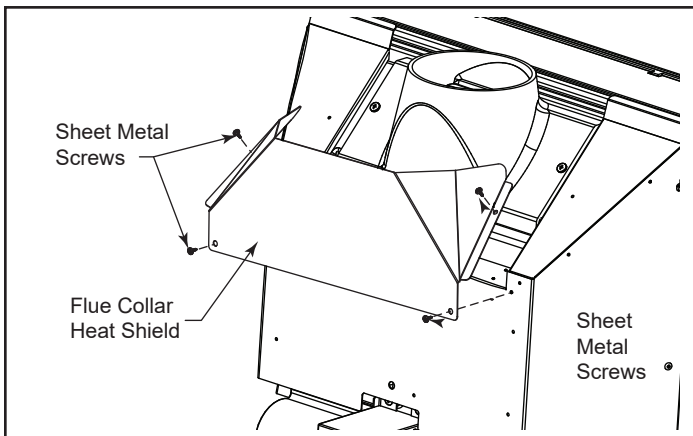

Figure 3.6 - Install flue collar heat shield.
Remove the (4) sheet metal screws that hold the flue collar heat shield in place. Once heat shield is removed, remove the (2) screws that attach the flue collar to the back of the stove, Figure 3.6. Be sure the gasket around the flue collar opening is in position when you screw the collar back onto the stove.